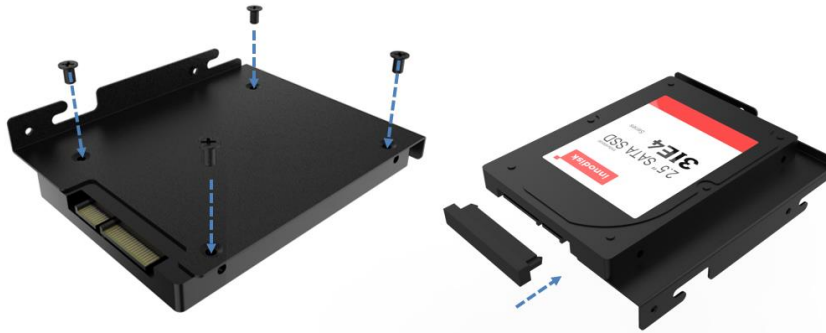

Figure 3-4: HDD Installation
- Step 2:** Plug in the hard drive cable, and install the HDD bracket back into the DRPC-242-ADL-P Series (pay attention to the positioning stud) using 3 screws (Figure 3-4).